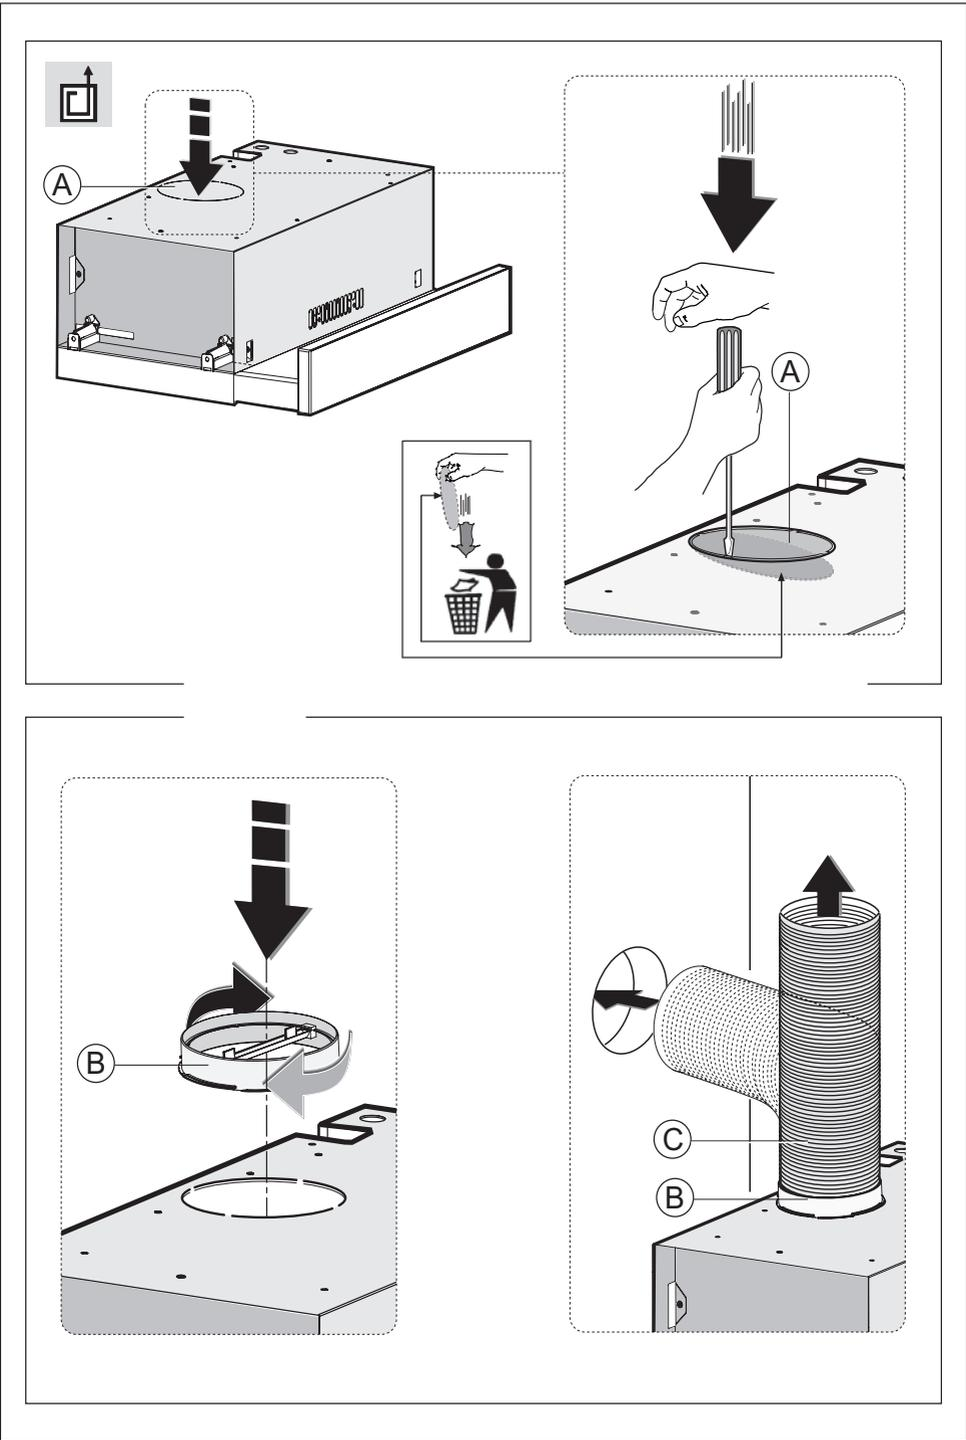

Fig.6
1. spacer **I** (Fig. 6).
To fill in any space remaining between the hood and the wall, simply position spacer **I** next to the wall and fix it in place with the **3** screws **L** as indicated in figure 6.
If you wish to convert the filter hood to an extractor model, first remove the press-fit lid **A** located above the bodywork, as indicated in figure 6.
Take flange **B** and connect it to the air outlet hole (fig. 6).
A flexible, non-flammable air exhaust hose **C** must be purchased (this hose must comply with all current legislation) and connected to flange **B**, which is only supplied for the extractor version (fig. 6).